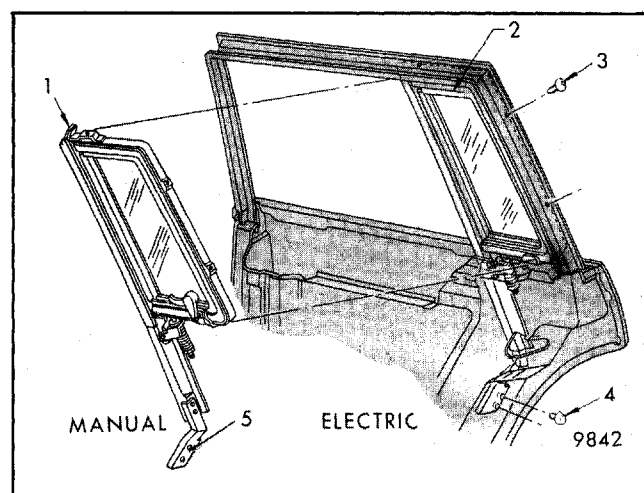

Fig. 5-140-Rear Door Vent Window Installation - A-35 Styles - Manual and Electric
REAR DOOR OPERATING VENT WINDOW ASSEMBLY - Manual and Electric - A-35 Styles (Refer to Figs. 5-140, 5-141 and 5-142)
A-35 Style (station wagon) rear doors have a movable vent window assembly which can be either manual (standard) or electric (optional order). Both types are held in place by attaching screws into the door upper frame (3, Fig. 5-140) and door lock pillar (4, Fig. 5-140). The vent assembly acts as a rear door window stationary glass channel and also holds the vent window in proper position. The vent glass is surrounded by a rubber weatherstrip in the closed position.
Removal and Installation - Manual Vent Window Assembly (Refer to Fig. 5-140)
3. Remove upper frame attaching screws (3, Fig. 5-140) and lower retainer to door lock pillar attaching screws (4, Fig. 5-140).
weatherstrip, then reverse removal procedure. Make sure vent assembly is seated entirely before installing attaching screws. Tighten lower retainer screws (4, Fig. 5-140) to 8 N·m (72 in-lb). Tighten upper frame attaching screws (3, Fig. 5-140) with hand screwdriver.
3. Unfasten actuator rod to actuator lever plastic retaining clip (1), by rotating clip inboard with flat-bladed screwdriver.
4. Remove drive cable plastic retaining clip (2) from retainer (4) by depressing tabs (3) inward and pushing up.
5. Remove upper frame attaching screws (3, Fig. 5-140) and lower retainer to door lock pillar attaching screws (4, Fig. 5-140).
7. To install, first apply a liberal amount of silicone spray or soap and water solution to vent weatherstrip, then reverse removal procedure. Make sure vent assembly is seated entirely before installing attaching screws. Tighten lower retainer screws (4, Fig. 5-140) to 8 N·m (72 in-lb). Tighten upper frame attaching screws (3, Fig. 5-140) with hand screwdriver.